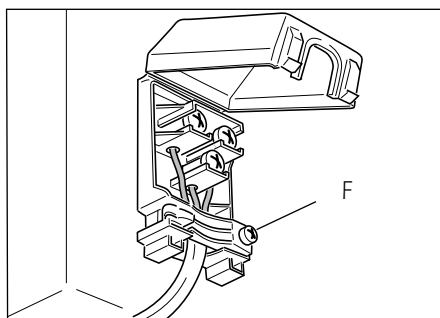

Figure 6
- *Open the cable crimp by unscrewing screw "F" (Fig. 6), unscrew the terminal screws and remove the cable.*